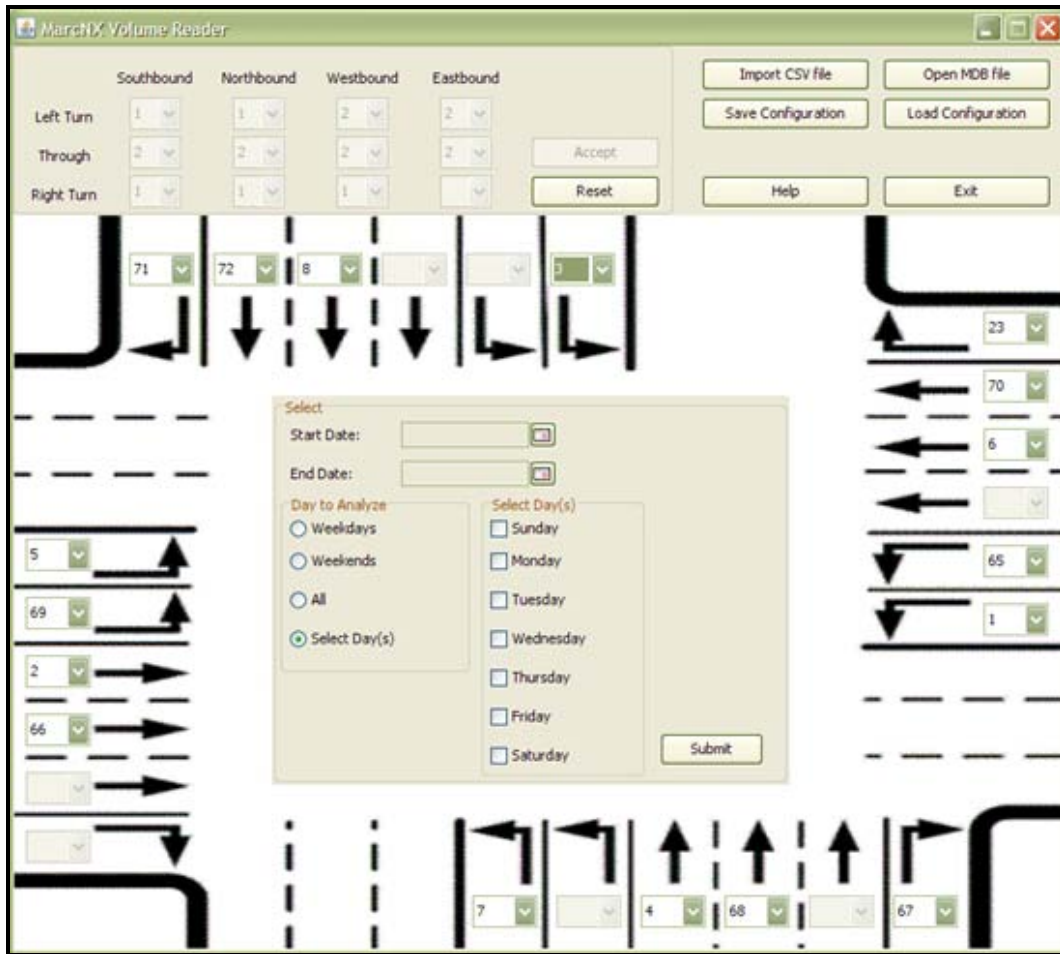

Figure 2. Mapping detector number to approach lane.
2. Using the pull-down lists, select the volume detector number that corresponds to each intersection lane (Figure 2).